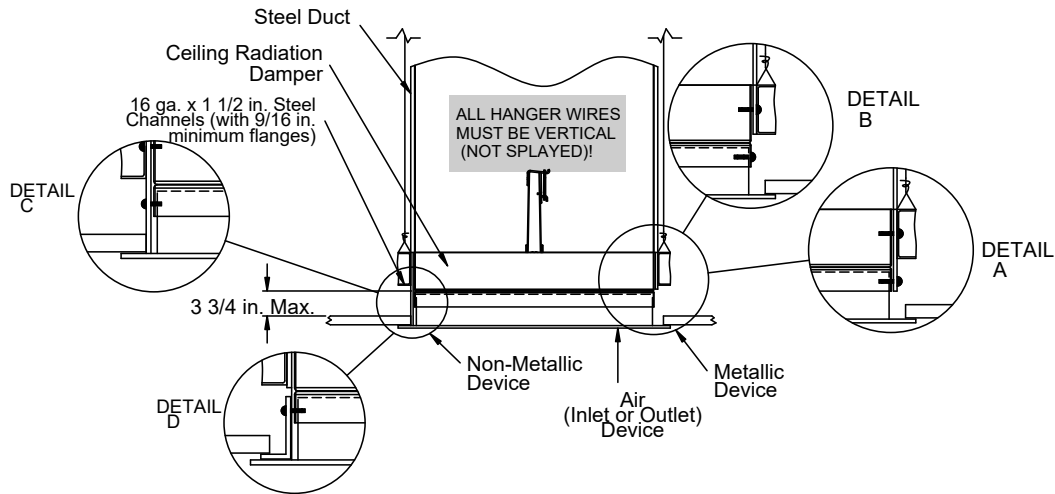

Figure 7
Ceiling radiation dampers and air inlet or outlet devices may also be supported directly from the structure above using one or more of the methods described in **Figures 7, 8, 9, or 10**. When channels are to be used as support, they must be 16 ga. x 1 1/2 in. steel channels with 9/16 in. minimum flanges (2 required per damper on opposite sides). Air device flange must overlap the ceiling membrane by a minimum of one inch.
1. Ceiling radiation damper and air device neck may be connected directly to the duct drop (see **Detail A, Figure 7**).
2. Ceiling radiation damper may be connected directly to the air device neck and then the duct drop connected to the damper (see **Detail B, Figure 7**).
1. The steel duct drop should extend to the bottom surface of the ceiling membrane and the opening in the ceiling membrane (see General information, Ceiling Penetrations) should be equal to the outside of the duct drop (see **Detail C, Figure 7**). Models CRD-1, CRD-1LP, CRD-2, and CRD-60 may be installed as shown in **Figure 7** (Model CRD-1 & CRD-1LP illustrated).
2. A steel angle should be attached to the bottom of the ceiling radiation damper and span the gap from the ceiling radiation damper to the bottom of the ceiling membrane (see **Detail D, Figure 7**).
Models CRD-1, CRD-1LP, CRD-2, and CRD-60 may be installed as shown in Figure 7 (Model CRD-1 & CRD-1LP illustrated).